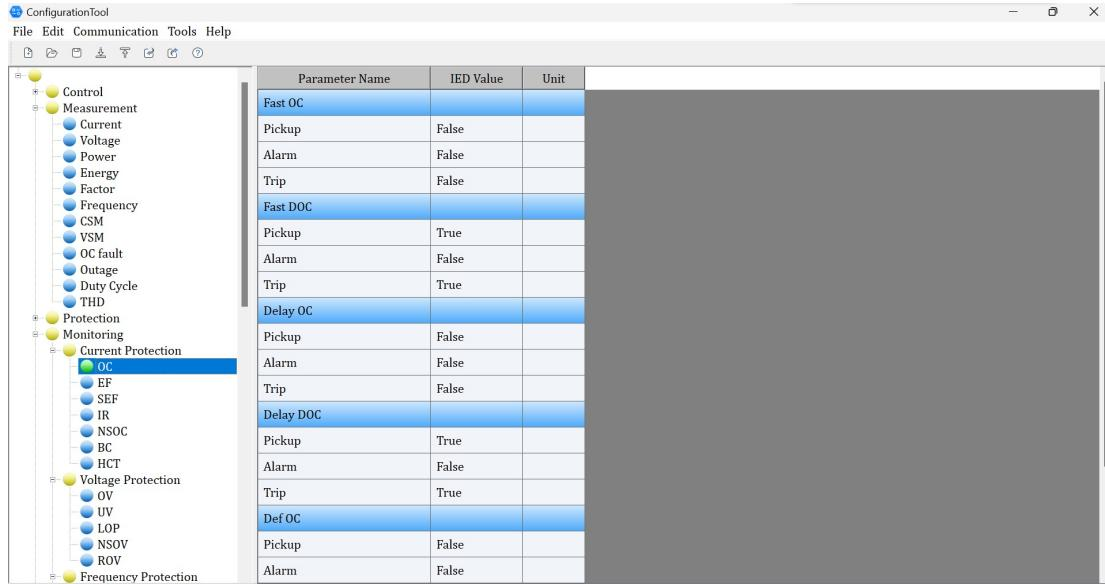

Figure 35 Monitoring settings on configuration tool
4. Click the "Monitoring" and status window will popup. (Figure 35)